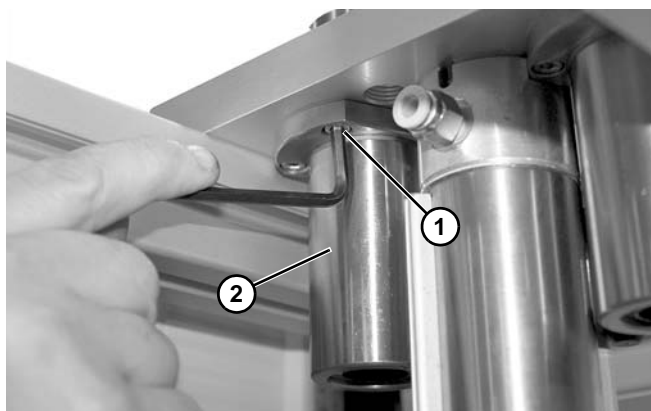

Figure 127
10. Remove socket head screws (**Figure 127, item 1**) and one bearing (**Figure 127, item 2**) as shown.